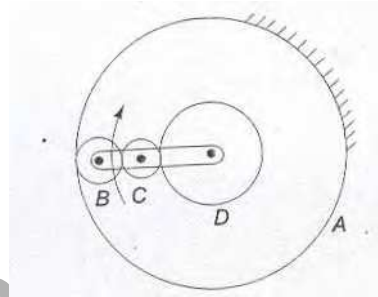

Figure 5
5. An epicyclic gear train, as shown in figure 5, is composed of a fixed annular wheel A having 150 teeth. The wheel A is meshing with wheel B which drives wheel D through an idler wheel C, D being concentric with A. The wheels B and C are carried on an arm which revolves clockwise at 100rpm about the axis of A and D. If the wheels B and D have 25 teeth and 40 teeth respectively, find the number of teeth on C and the speed and sense of rotation of C. [15]